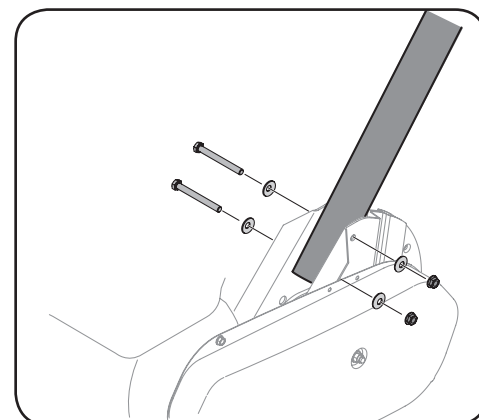

Figure 3-5
- Remove the bolts, washers and nuts from the chain case bracket. See Figure 3-5.
- Place the handle into position and secure with the previously removed hardware. See Figure 3-5.